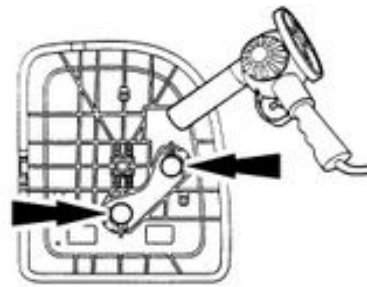

FIGURE 8
6. Using the special tool, warm the main pivot sockets in the exterior mirror glass backing plate assembly (refer to Figure 8).